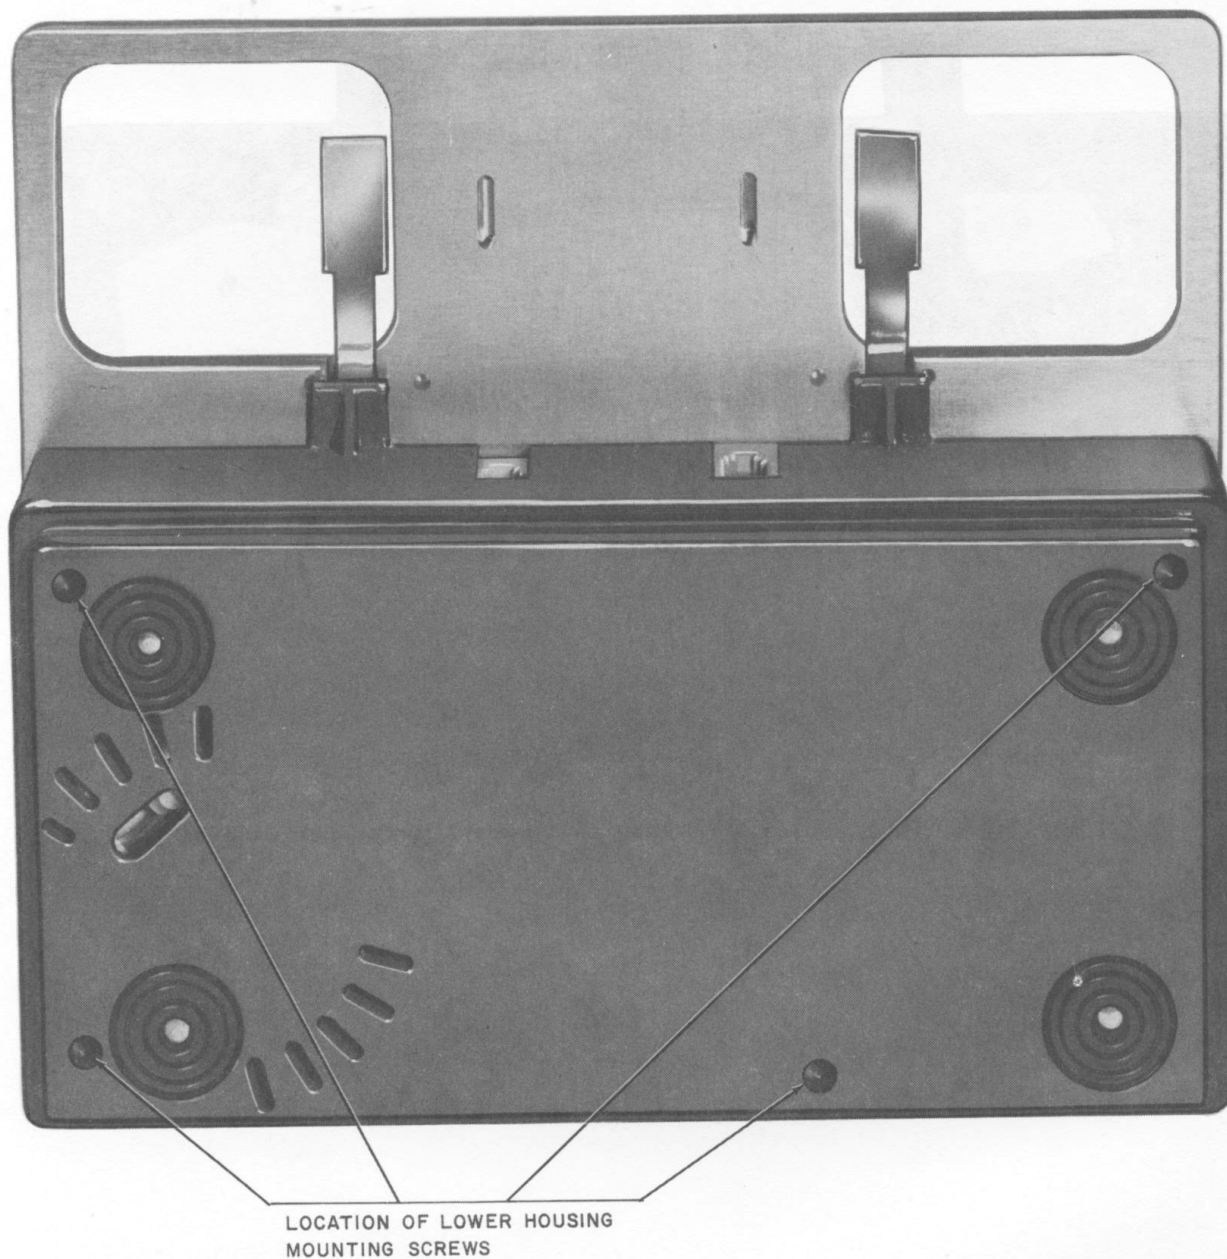

Fig. 12— 930B, 2930B, or 2931B Telephone Set, Bottom View
- (1) Remove handset and mounting cords from the back of the telephone set.
- (2) Remove the four lower housing mounting screws (Fig. 12).